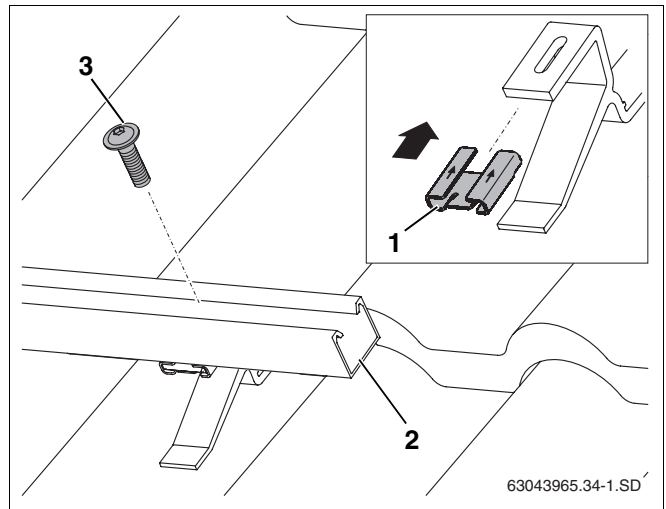

Fig. 32 Fastening profile rails to the roof hook
- ▶ Push sliding nut (Fig. 32, **Item 1**) onto the roof hook in the direction of the arrow.
- ▶ Place the lower profile rails (Fig. 32, **Item 2**) onto the roof hooks and loosely fasten M8 bolt (Fig. 32, **Item 3**) so that the profile rails can still be aligned.